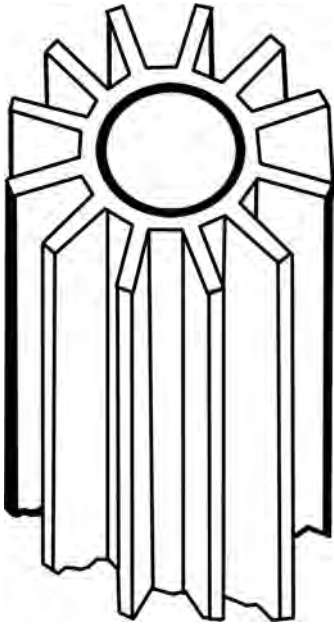

FIGURE 13.5 Extended axial finned tube.
- > *Extended Axial Fins:* See Figure 13.5.